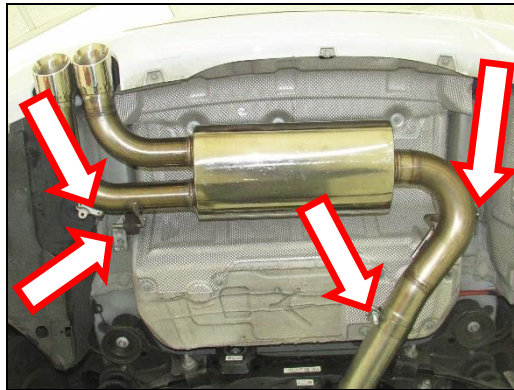

Figure 9
- Slide on the (x1) 3" band clamp and install the muffler. Tighten (x2) 13mm head nuts on the left and right side hanger bracket. Plug up the exhaust valve (**Figure 9**). Line up the exhaust tips and tighten all bolts and clamps.